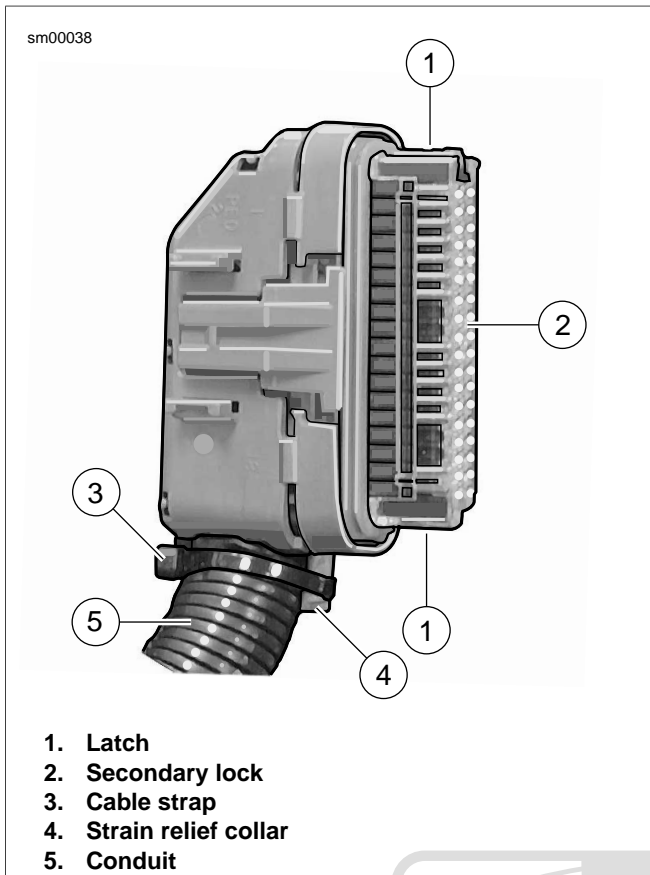
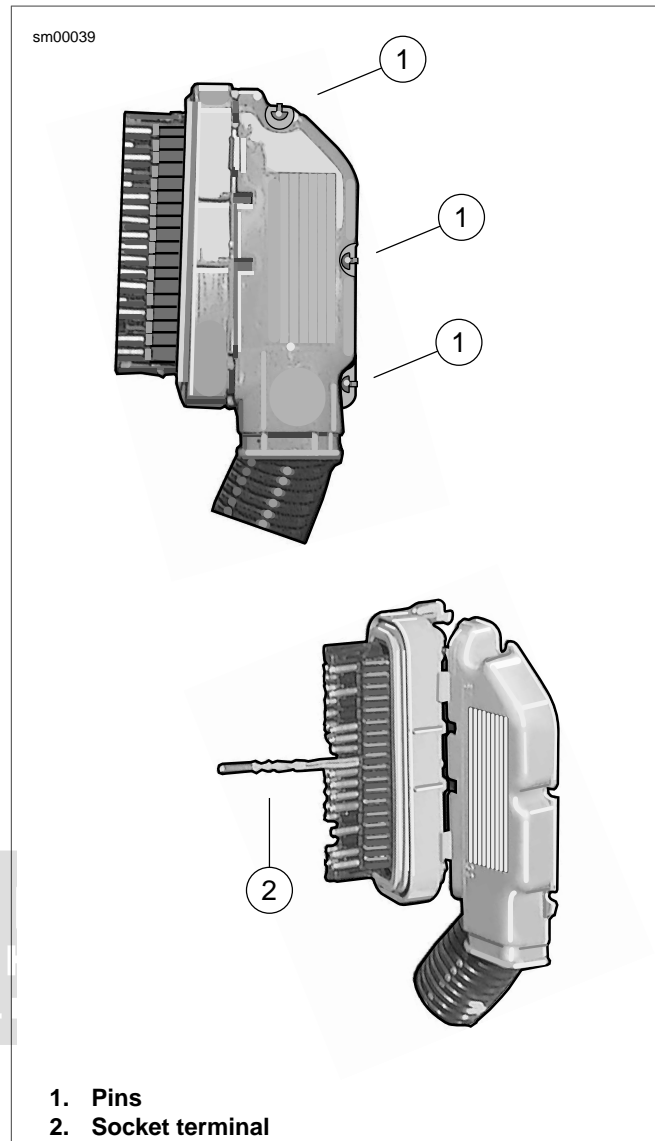

Figure A-42. Packard 100W Connector
Figure A-43. Packard 100W Connector: Separate Halves of Socket Housing
1. See Figure A-42. Gently press latch (1) on each side of the clear plastic secondary lock (2) and remove. For best results, release one side at a time.
2. Carefully cut cable strap (3) to free strain relief collar (4) from conduit (5).
3. See Figure A-43. Using a thin blade, gently pry at seam at back of socket housing to release three plastic pins (1) from slots in housing. Separate and spread halves of socket housing.